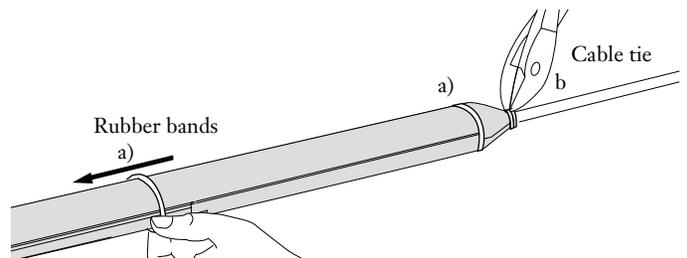

Figure 8
5.4 To unseal the grip (Figure 8):